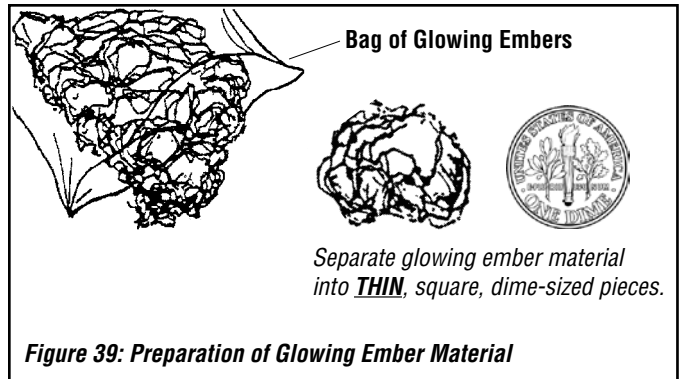

Figure 39: Preparation of Glowing Ember Material
- Separate some of the glowing ember material into pieces **about the size and thickness of a dime** (see **Figure 39**). Keep the pieces fluffed up, not matted.